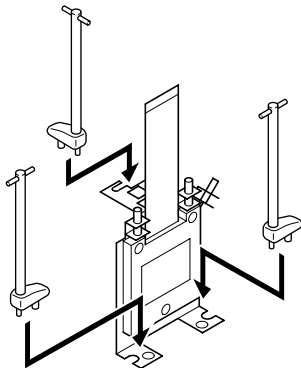

Fig. 3-2-7
6. Prepare one focus adjustment jig and insert it onto the one hole on top of the LCD plate, and adjust the LCD plate back and forth until the best focus is obtained in considering upper and lower balance of the projection screen. (Refer to Fig. 3-2-7.)
4. Prepare two focus adjustment jigs. Insert them onto two holes on bottom of the LCD plate, and adjust the LCD plate back and forth until the best focus is obtained in considering left and right balance of the projection screen. (Refer to Fig.3-2-7.)
6. Prepare one focus adjustment jig and insert it onto the upper hole of the LCD plate, and adjust the LCD plate back and forth until the best focus is obtained in considering upper and lower balance of the projection screen. (Refer to Fig.3-2-7.)
11. Perform the adjustment steps (1) – (9) described under “Red/Blue LCD Adjustment” for each red and blue LCD.
12. After completion of the red and blue LCD adjustments, perform the steps (10) – (18) described under “Red/Blue LCD Adjustment”.